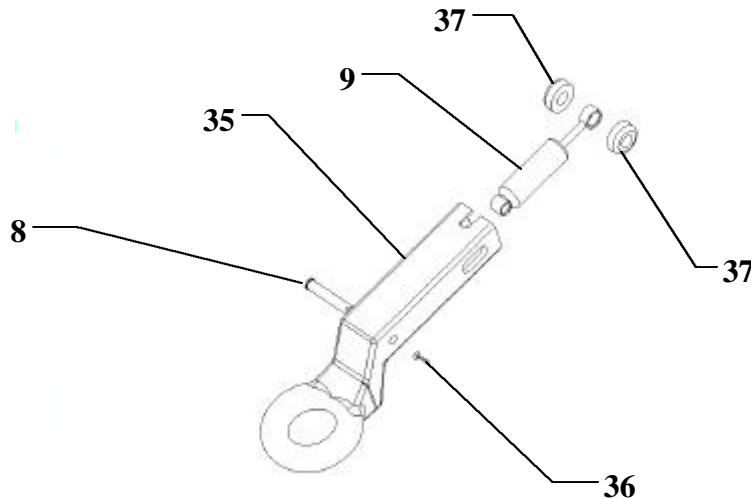

Figure 8
17. Install the damper (9) in inner slide P/N 12479774 (35). The small damper-eye goes in first, toward lunette ring. Secure the damper re-using the damper pin (8) removed in Step 3; ensure the damper pin passes through the damper eye. Install a new cotter pin P/N MS24665-421 (36) through the damper pin. (figure 8)
18. Install new supplied rollers P/N 12479776 (37) inside the inner slide (35), on either side of the rear damper eye. (figure 8) The rollers must have the chamfered sides facing the walls of the inner slide. Align roller holes with rear damper eye so that master pin can pass through the inner slide slot, the rollers and the rear damper eye.